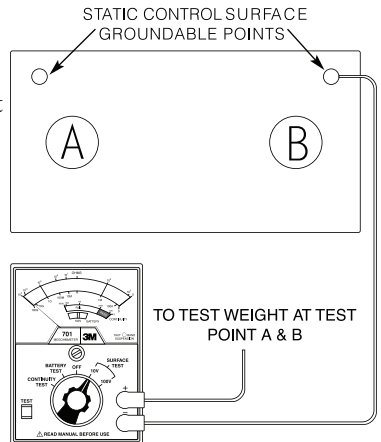

Figure 5-4: Material Evaluation Surface to Groundable Point Test
- D. Surface-to-Groundable Point Test: Test samples per Figure 5-4, using both the 100 volts and 10 volts SURFACE TEST ranges at 50% RH and record the values as (RTS-GP).